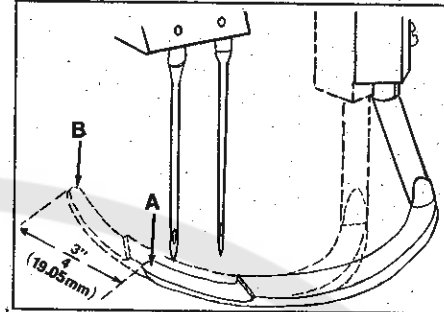
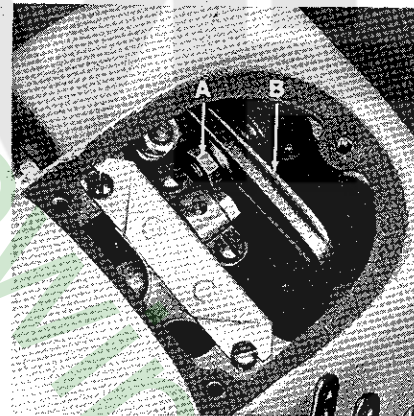

FIGURE 16
FIGURE 17
The travel of the spreader from point (A, Fig. 16) to point (B) should be  $\frac{3}{4}$  inch (19.05 mm). Adjustment is made by loosening nut (A, Fig. 17) and moving the ball joint in the rocker shaft lever (B) as required. The further away from the rocker shaft the ball joint is located, the shorter the travel of the spreader. Retighten nut (A) after adjustment. Check clearance between connecting rod ball joint and machine casting.